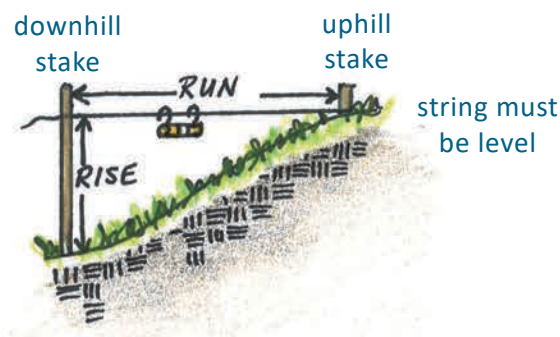

Figure 2 – Determine the slope of the landscape before digging.
- Place one stake at the uphill end of the rain garden area and another at the downhill end as illustrated in Figure 2.